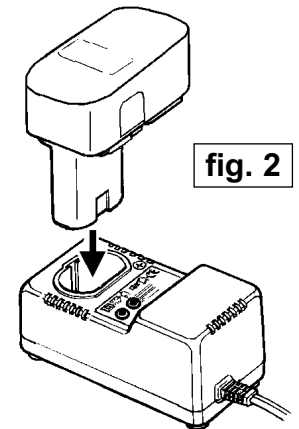

fig. 2
2. Insert battery into the charger (as supplied with the CP2018VHK Cordless Hammer Drill). Note that the battery will only fit one way round - DO NOT use force. See fig. 2.